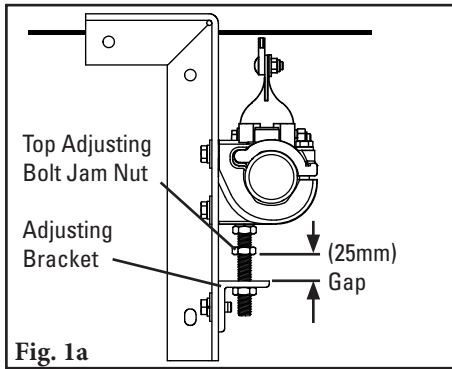

Fig. 1a
- 1. Install mounting brackets.** Determine the correct clamp block (left or right) and bracket needed for each side of the conveyor. The top strap should be offset away from the belt (you should be able to see the notch for the top strap from the outside of the conveyor). (Fig. 1a).
- a. Loosen the top adjusting bolt jam nuts 25mm from the top of the adjusting brackets (Fig. 1a).